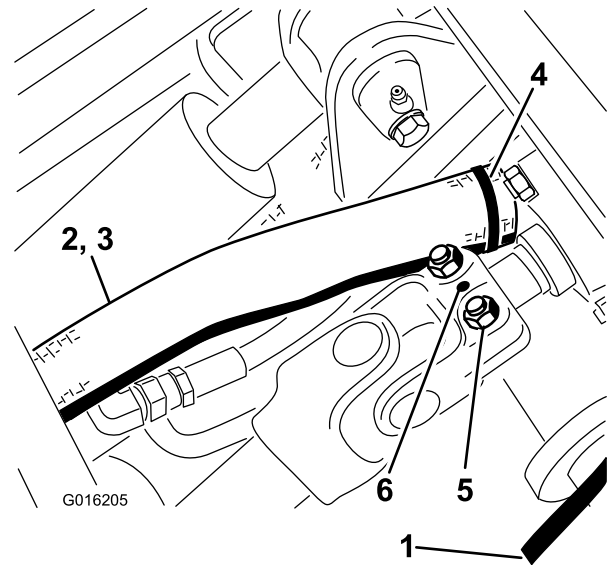

Figure 47
7. Connect the drive shaft to the gear box shaft in the winter frame and torque the bolts (5/16 inch) to 20 to 25 N-m (175-225 in-lb). Install the roll pin (Figure 47).